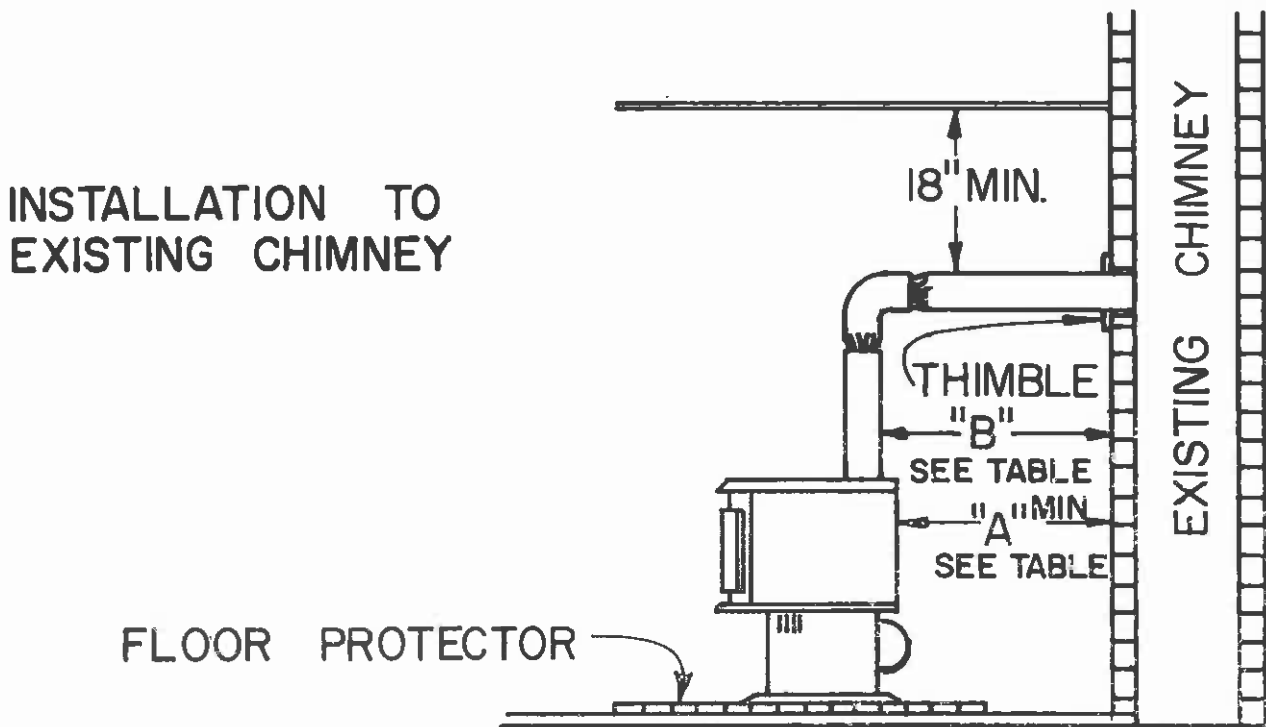

FIGURE 2
2. The connector pipe should be 18 inches or more from combustible material except as noted. (See Figure 2) Clearances may be reduced by utilizing additional protection.